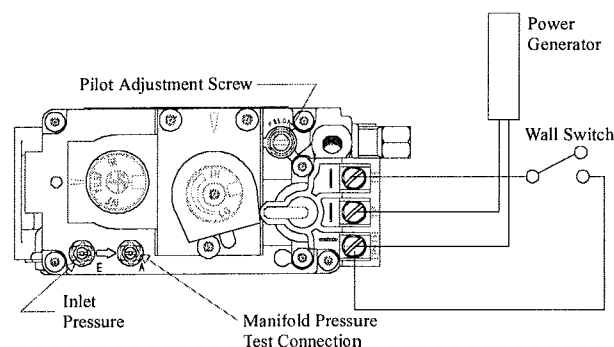

Figure 24. SIT 820 gas valve.
- Have the fireplace installation inspected yearly, including a visual check of the vent system, the burner and the pilot flame. For your convenience a 1/8" manifold pressure tap is supplied on the gas valve for a test gauge connection. See Figure 24.
- Remove Pilot Adjustment Cap. (See figure 24.)
Pilot won't ignite	Disconnect remote wires and try to light pilot. If pilot now works, remote connections are faulty. Check wiring diagram figure 24 .
Main burner will not light	1. Check wiring (see figure 24) 2. Check wall switch for proper connection.